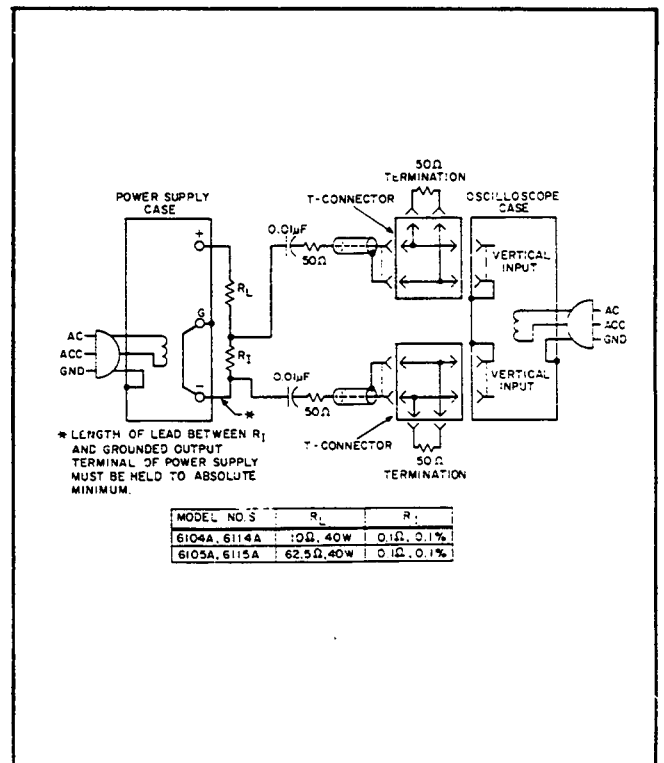

Figure 5-11. Constant Current Noise Spike Test Setup
- Connect test setup shown in Figure 5-11.